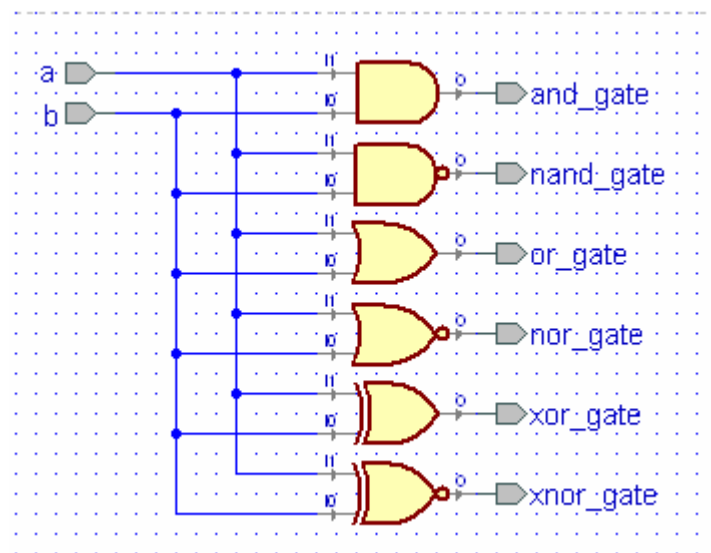
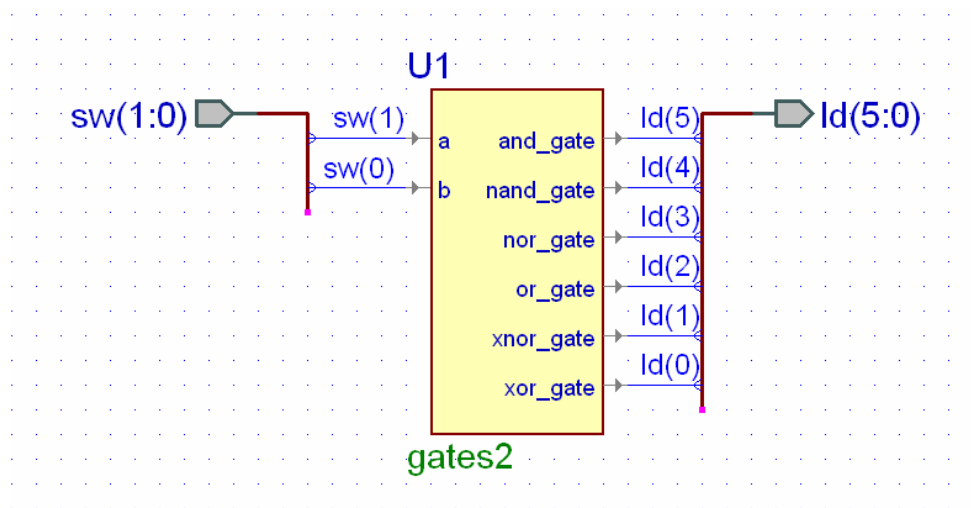

Figure 2.1 Circuit diagram for Example 2
Figure 2.3 Top-level design for Example 2
Part 4 of the tutorial in Appendix A shows how to connect two inputs *a* and *b* to the inputs of six different gates using the block diagram editor (BDE) in Active-HDL. The result is shown in Fig. 2.1. Note that we have named the outputs of the gates the name of the gate including an underscore. Identifier names in VHDL can contain any letter, digit, underscore `_`, or `$`. The identifier can not begin with a digit or be a VHDL keyword. VHDL is *not* case sensitive.
The logic diagram in Fig. 2.1 contains six different gates. This logic circuit is described by the VHDL program shown in Listing 2.1. The first line in Listing 2.1 is a comment. Comments in VHDL follow the double dash --. All VHDL programs begin with an *entity* statement containing the name of the entity (*gates2* in this case) followed by a list of all input and output signals together with their direction and type. We will generally use lower case names for signals. The direction of the input and output signals is given by the VHDL statements *in*, *out*, or *inout* (for a bi-directional signal).
To describe the output of each gate in Fig. 2.1 we simply write the logic equation for that gate preceded by the assignment operator, *<=*. These are *concurrent* assignment statements which means that the statements can be written in any order.
Part 5 of the tutorial in Appendix A shows how to create a top-level design for the *gates2* circuit. In order to use the constraint files *basy2.ucf* or *nexys2.ucf* described in Example 1 we must name the switch inputs  $sw(i)$  and the LED outputs  $ld(i)$ . This top-level design, as created in Part 5 of Appendix A is shown in Fig. 2.3. The module *gates2* in Fig. 2.3 contains the logic circuit shown in Fig. 2.1. Note that each wire connected to a bus must be labeled to identify its connection to the bus lines.
Compiling the top-level design shown in Fig. 2.3 will generate the VHDL program shown in Listing 2.2. The inputs are now the two rightmost slide switches,  $sw(1:0)$ , and the outputs are the six right-most LEDs  $ld(5:0)$ . To associate these inputs and outputs with the inputs  $a$  and  $b$  and the six output in the  $gates2$  component in Fig. 2.1 and Listing 2.1 we use the VHDL *port map statement*
This VHDL *port map* statement begins with an arbitrary name for the component in the top-level design. Here we call it U1. This is followed by the name of the component being instantiated, in this case *gates2* from Listing 2.1. Then using the *port map* statement enclosed in parentheses are the inputs and outputs from Listing 2.1 associated with corresponding inputs and outputs in the top-level design in Fig. 2.3. Note that we connect the input *a* in Listing 2.1 to the input *sw*(1) on the FPGA board. The input *b* in Listing 2.1 is connected to *sw*(0) and the outputs *and\_gate*, *nand\_gate*, *or\_gate*, *nor\_gate*, *xor\_gate*, and *xnor\_gate* are connected to the corresponding LED outputs *ld*(5:0). These associations can be made in this way in any order. The *port map* statement in Listing 2.2 generated from the top-level block diagram are associated in alphabetical order.